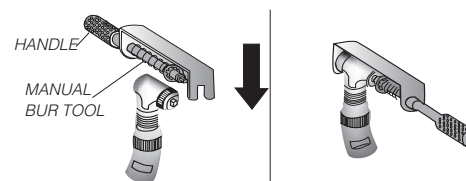

FIG.5
- Pull handle back on manual bur tool, StarDental Part #203108, and slide open end of tool onto head of angle as shown in (Fig 5); release spring loaded handle and seat shaft of tool into the opening in the rear of angle head.